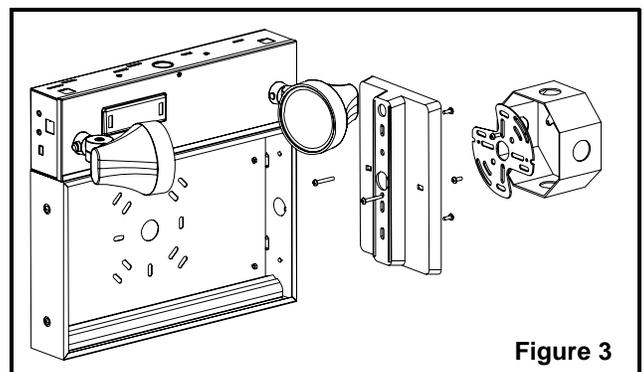

Figure 3
Canopy - Ceiling or End mount (Figure 3)
- e. Fasten the canopy to the housing (see figure 3). Knock out the two holes near the wire way. Fasten the canopy-housing assembly to the spider plate using the provided 1 1/2" screws.